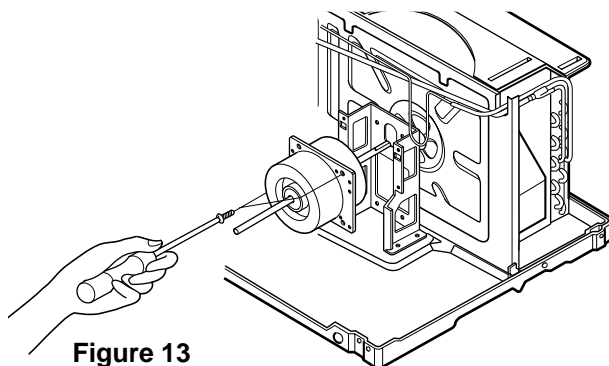

Figure 13
7. Remove the 2 screws which fasten the motor from the mount motor. (See Figure 13)
9. Re-install the components by referring to the removal procedure, above. (See Figure 13)